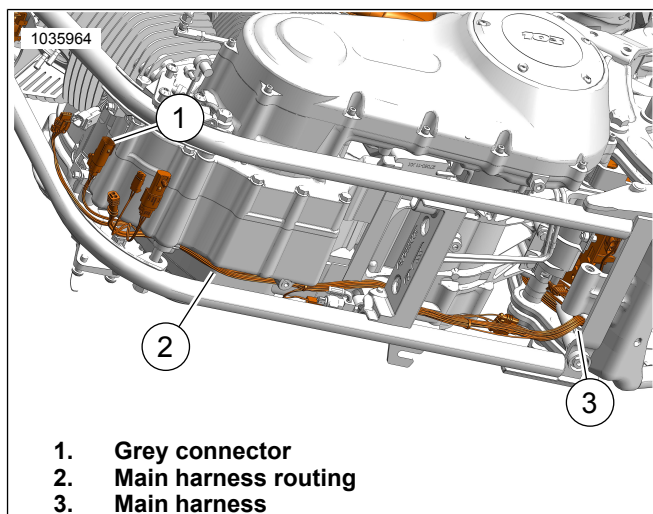

Figure 35. Harness Routing
14. See Figure 35. Route grey harness connector out of battery compartment:
- Locate main harness (3).
- Route harness with grey connector along main harness (2) toward the front main harness connector.
- Color match connectors (1): grey to grey.